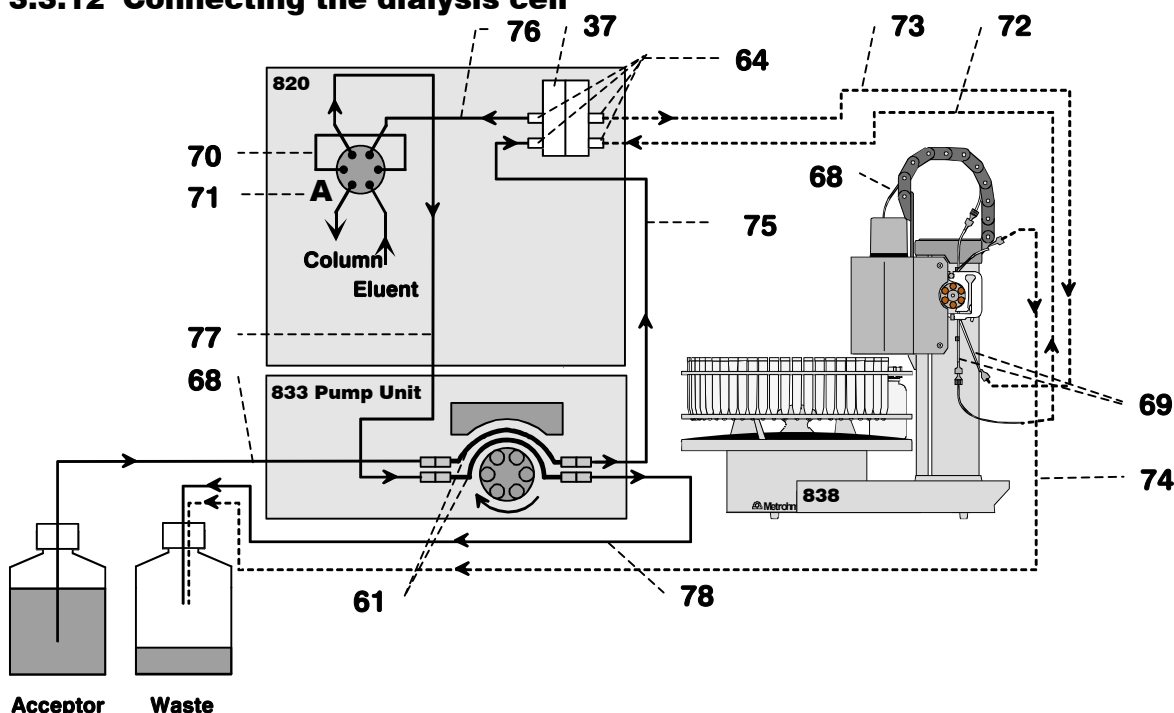

Figure 24 Capillary connections for dialysis
- Immerse the two aspiratory tubings **68** and **72** (see *Figure 24*) in the acceptor solution (degassed ultra-pure water).